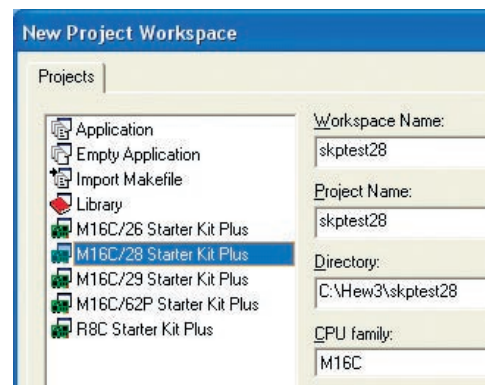

Figure 3. New Project Workspace in HEW
- ii) Select “M16C/28 StarterKit Plus” (Figure 3).